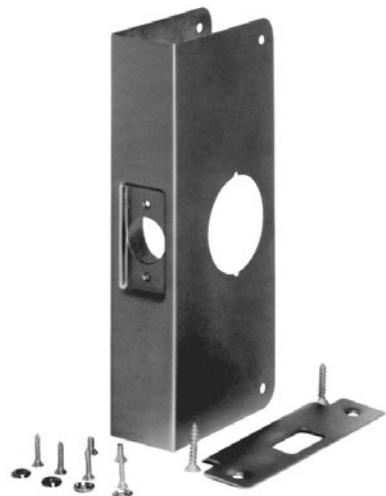

Figure 13.134 Install-A-Lock lock changing kit component parts.
M.A.G. Engineering and Mfg. Co. has spent many years perfecting these units. Because of the ever-increasing need for upgraded security in today's society, these products are widely used and beneficial to all. Figure 13.134 shows just one type of the Install-A-Lock lock changing kits available.